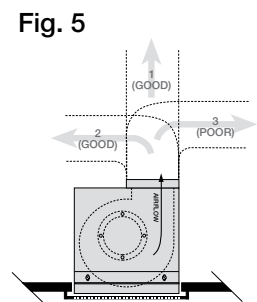

Fig. 5
- Installation of ductwork is critical to the performance of the fan, shown in Fig. 5. Straight ductwork (1) or ductwork that turns in the same direction as the wheel (2) is recommended. Ductwork turning opposite the wheel direction (3) will cause turbulence and back pressure resulting in poor performance.